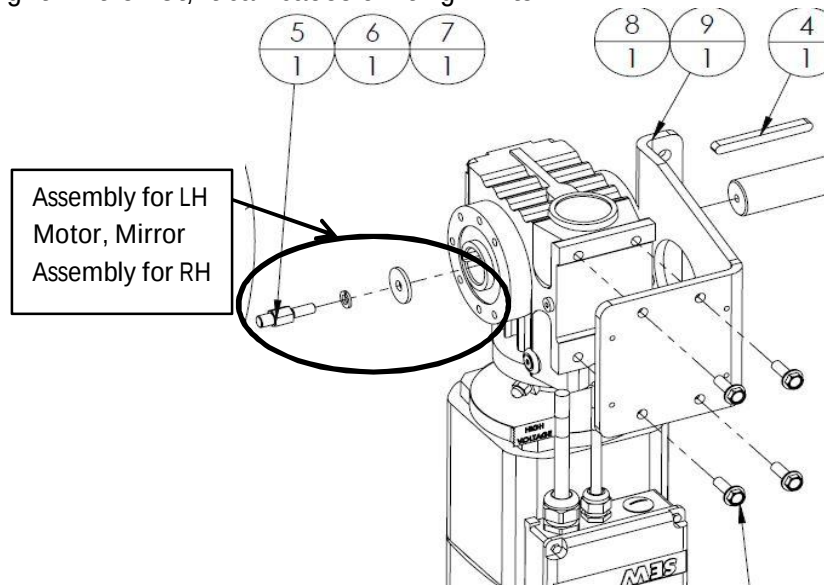

Figure 1
2. Install the new encoder shaft, washer, and lock washer. (See Figure 1 & 2). Make sure the shaft is tight. If it is not, it can cause drifting limits.